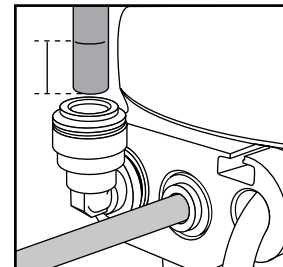

Figure 21
4. Install free end of green tubing to green quick-connect fitting or elbow as directed in Figure 21.